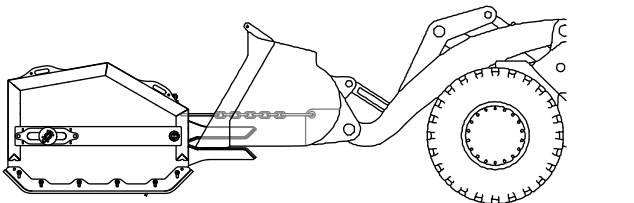

Figure 14
4. Secure the plow to the bucket using a transport chain that is at least 3/8 inch and Grade 70 or higher, as shown in Figure 14. Positioning the chains horizontal and without crossing ensures optimal mounting; weld on tabs may be required to achieve this.